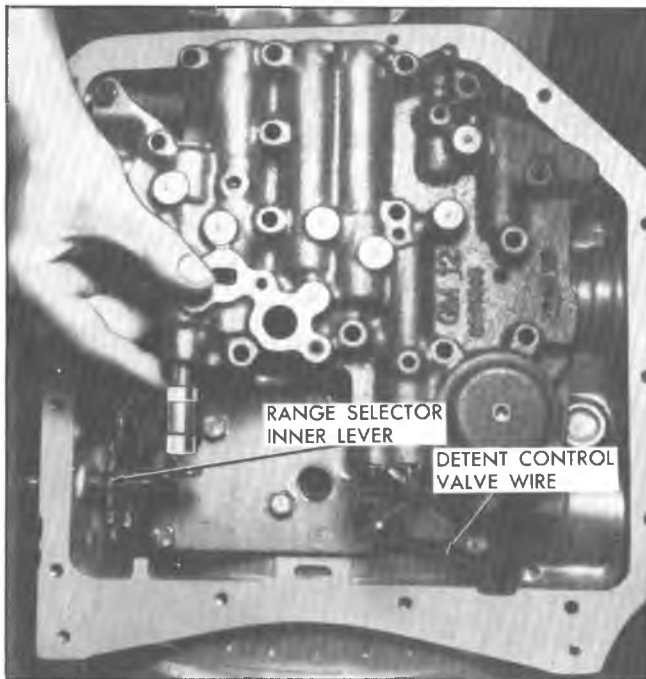

Fig. 12M--Removing Manual Control Valve Link, Valve Body and Detent Actuating Lever
2. Remove manual control valve link from range selector inner lever. Remove detent control valve link from detent actuating lever (fig. 12M). Refer to page 7A-37 for valve body disassembly.